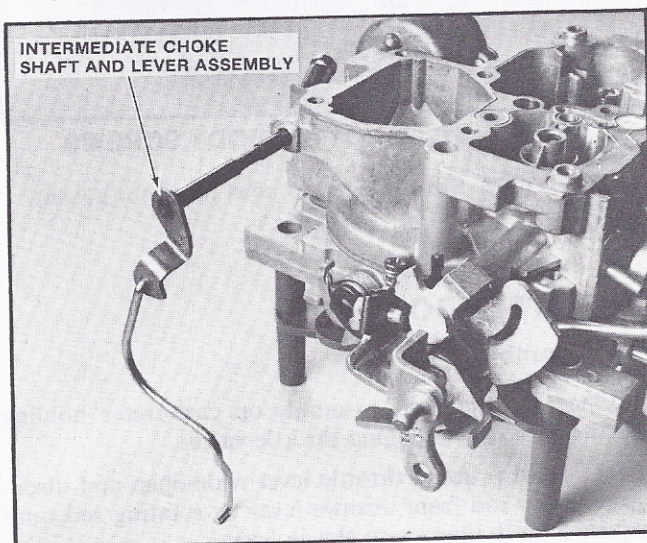

FIGURE 29 REMOVING INTERMEDIATE CHOKE SHAFT
4. Remove intermediate choke shaft and lever assembly from float bowl by sliding rearward out throttle lever side (Figure 29).
side (Figure 29).